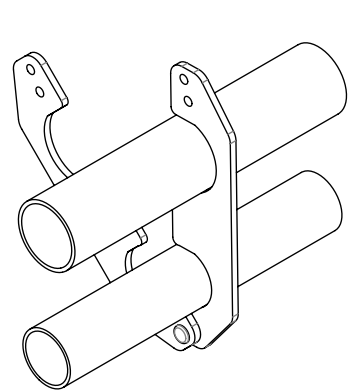

Figure 2: Top open
- 1. Snap bracket halves together with bottom rivet, then fit one half over pipes as shown in figure 2 to the right.